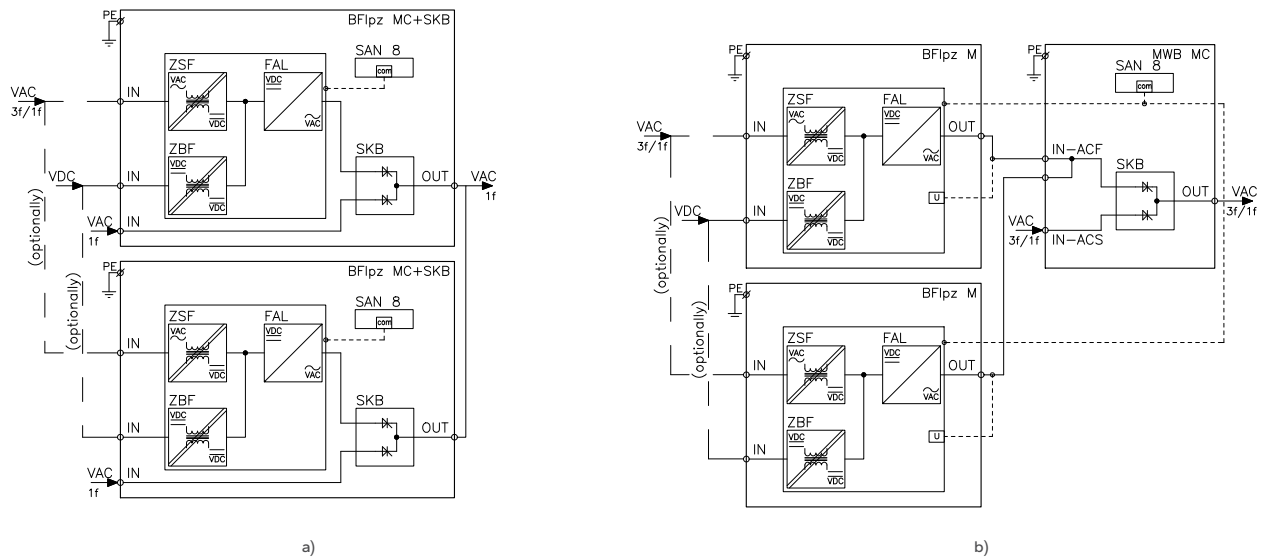
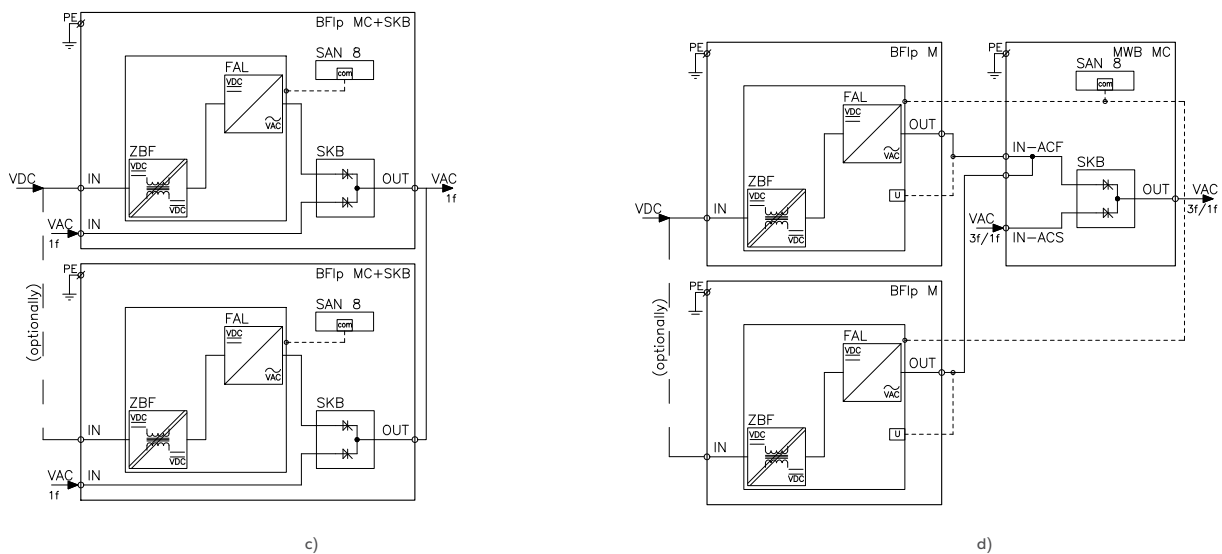

Fig. 49. Block diagram of the inverter module for parallel operation with the BFIPz power supply unit. Possible configurations:
Fig. 50. Block diagram of the BFIp type inverter module for parallel operation. Possible configurations:
1. Two modules – Fig. 49 a), Fig. 50 a):
2. Three modules – Fig. 49 b), Fig. 50b):
In configuration 1 – the BFlpz+SKB inverter module is supplied by the basic AC network voltage, DC voltage, as well as the AC reserve network voltage (the automatic bypass supply voltage – this is a standard solution used to increase the reliability of the system) (Fig. 49 a). On the other hand, the BFlpz+SKB inverter module is supplied from DC voltage and a reserve AC network voltage (Fig. 50 a).
In configuration 2 – the BFlpz inverter module is supplied by voltage of the basic AC network and DC voltage – Fig. 49 b), while the BFlp inverter module is supplied from DC voltage (Fig. 50 b). The MWB modules is supplied by voltage of the AC reserve network (the automatic bypass's supply voltage – this is a standard solution used to increase the system's reliability), as well as output voltages of inverters (Fig. 49 b, Fig. 50 b).